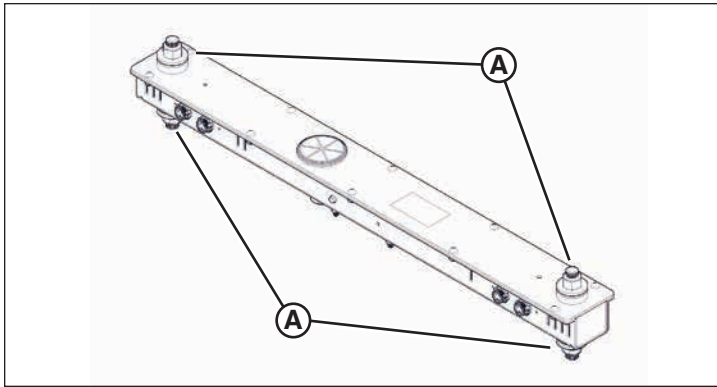

Figure 3
3. While supporting the light fixture, remove the nut and washer assembly (A, Figure 3) fastening the lamp yoke and remove each light fixture and lamp yoke.